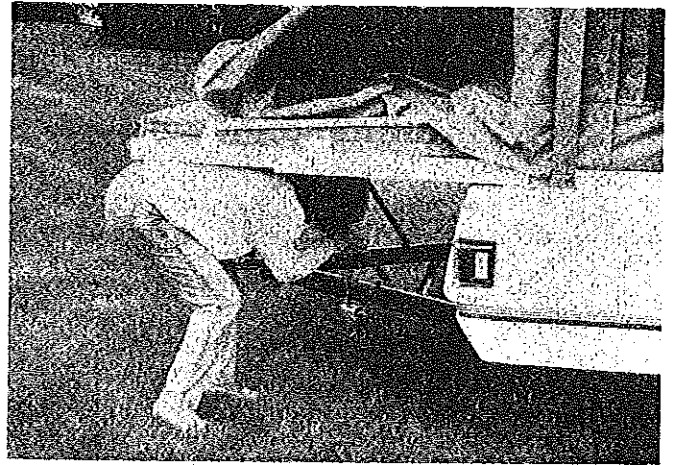

FIGURE 13
17. Kneel down beneath the side of the fully extended bed. Pull down and swivel the bed support tubes from their travel positions. Lift the bed slightly while placing the free end of the bed support tube over the support peg. Perform same procedure for the rear bed. See Figure 13.